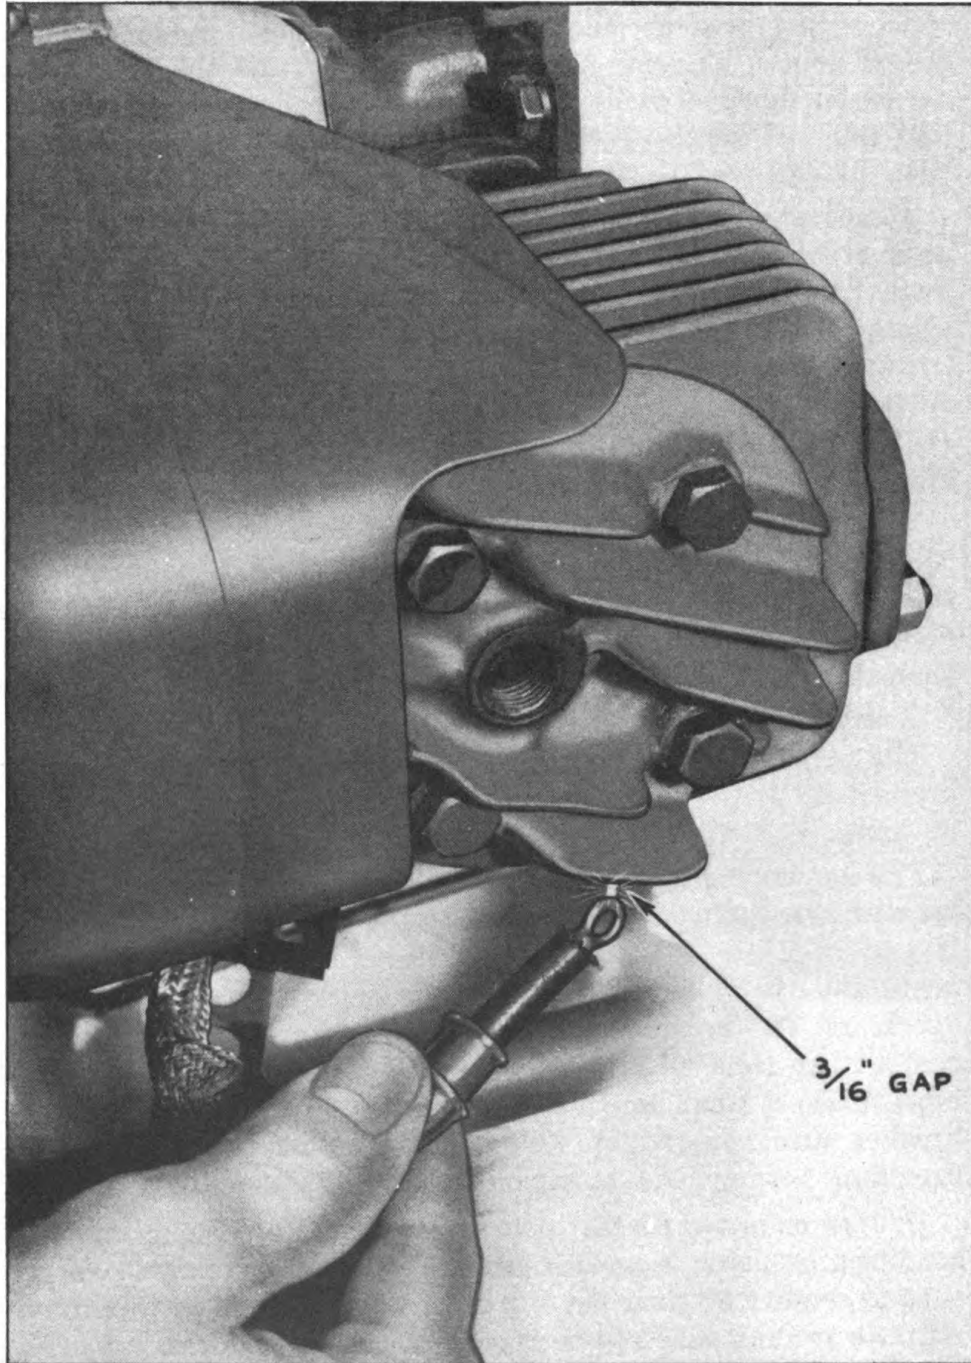

FIG. 10—TEST FOR SPARK OUTPUT
b. Magneto.—It is recommended, if there is an indication the magneto is causing trouble, that a test be made before attempting to repair it. If the engine refuses to start after it is determined the spark plug is all right, check magneto by holding high tension wire (25) $\frac{3}{16}$ " away from a point on the engine (See Fig. 10, Page 21). When the engine is cranked in the usual manner, a properly performing magneto will have a spark output strong enough to jump the prescribed gap.